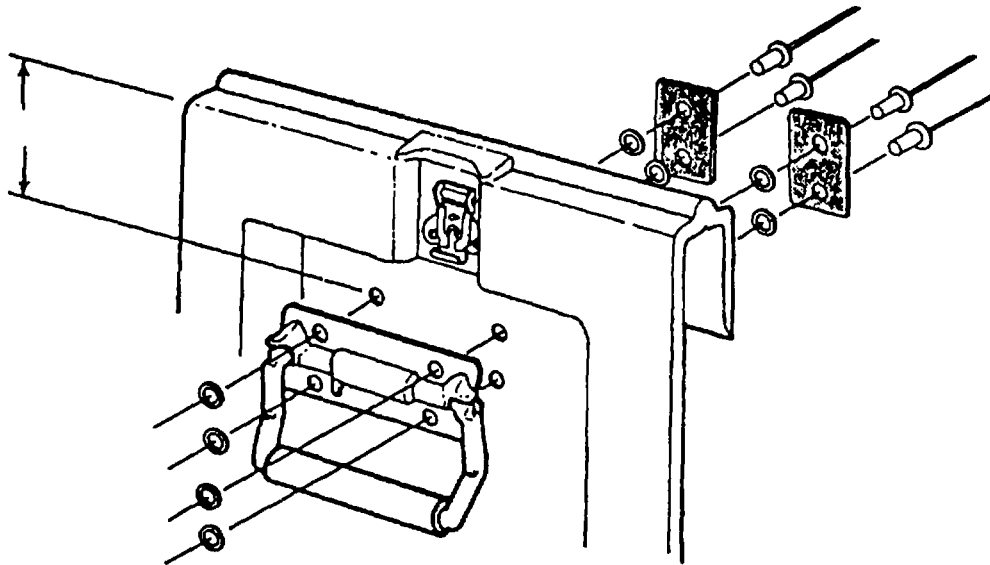

Figure 2-7. Replacement of Handle
1. Replace handle if damaged or non-functional (See Figure 2-7).